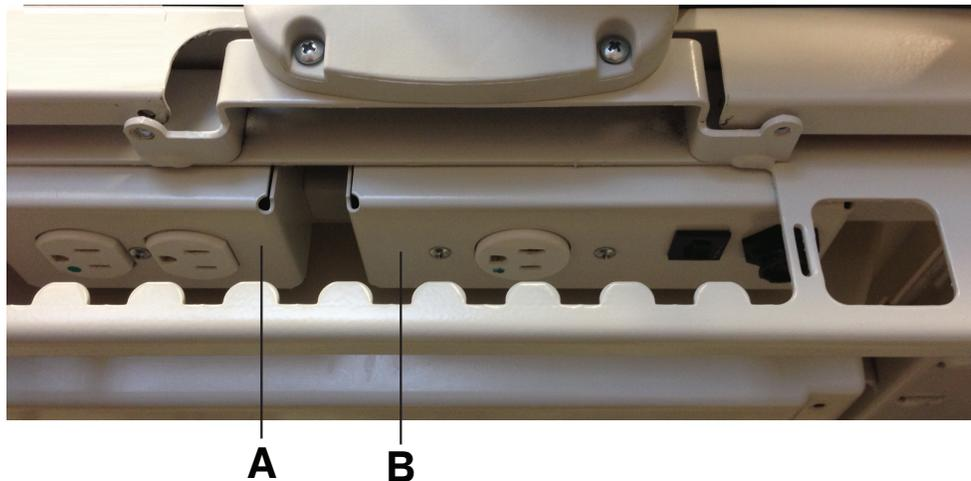

Figure 12: Optional InTouch auxiliary outlets
You can use the 110 volt **InTouch** auxiliary power outlet as a built-in power source for peripheral equipment. The outlet is located beneath the foot end on the patient left side of the product (A) (Figure 1 on page 9). There is a one and two plug option for the **InTouch** auxiliary outlet (A) (Figure 12 on page 26).
There is also an auxiliary mattress connector outlet for connecting a support surface option to InTouch (B) (Figure 12 on page 26). A 5A breaker is also integrated into this power outlet.